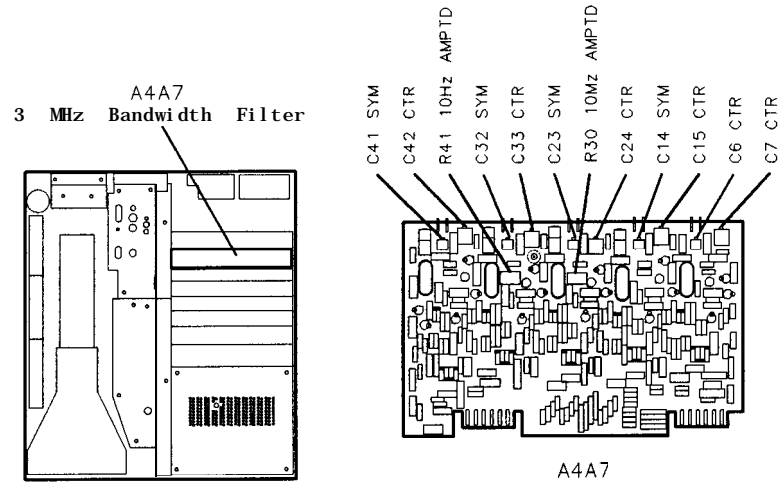

Figure 3-38.
7. On A4A7 3 MHz Bandwidth Filter Assembly connect crystal filter bypass networks between the two test points above C41 SYM, C32 SYM, C23 SYM, and C14 SYM. See Figure 3-38 for the location of A4A7 3MHz Bandwidth filter.
8. Adjust A4A7C7 CTR for minimum amplitude of the displayed signal peak. Adjust A4A7C6 SYM for best symmetry of the displayed signal. Repeat adjustments to ensure that the displayed signal is **nulled** and adjusted for best symmetry. See Figure 3-38 for location of adjustments.
10. Adjust A4A7C15 CTR for minimum amplitude of the displayed signal peak. Adjust A4A7C14 SYM for best symmetry of the displayed signal. Repeat adjustments to ensure that the signal is **nulled** and adjusted for best symmetry. See Figure 3-38 for location of adjustments.
12. Adjust A4A7C24 CTR for minimum amplitude of the displayed signal peak. Adjust A4A7C23 SYM for best symmetry of the displayed signal. Repeat adjustments to ensure that signal is **nulled** and adjusted for best symmetry. See Figure 3-38 for location of adjustments.
14. Adjust A4A7C33 CTR for minimum amplitude of the displayed signal peak. Adjust A4A7C32 SYM for best symmetry of the displayed signal. Repeat adjustments to ensure that signal is **nulled** and adjusted for best symmetry. See Figure 3-38 for location of adjustments.
16. Adjust A4A7C42 CTR for minimum amplitude of the displayed signal peak. Adjust A4A7C41 SYM for best symmetry of the displayed signal. Repeat adjustments to ensure that the signal is **nulled** and adjusted for best symmetry. See Figure 3-38 for location of adjustments.
42. Adjust **A4A7R30** 10 Hz AMPTD and **A4A7R41** 10 Hz AMPTD equal amounts to set the signal level the same as the reference level set in step 39. See Figure 3-38 for location of 10 Hz AMPTD adjusts.